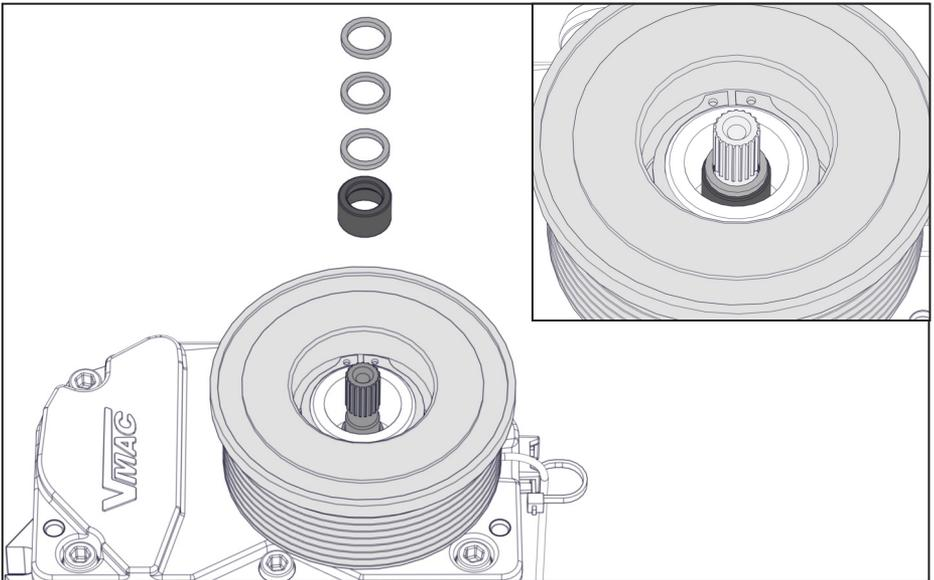

Figure 12 — Install shim pack
- Slide the supplied spacer onto the compressor shaft until it rests on the shoulder of the shaft (Figure 12).
- Reinstall the shim pack (set aside earlier in the installation) onto the compressor shaft (Figure 12).